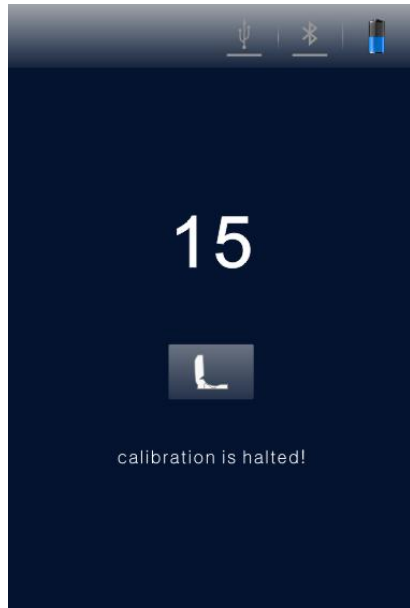

Fig 2.5-2
- c. If the  icon and < **Calibration is halted!** > are displayed on the screen of Biolum detector, as shown in figure 2.5-2. Please close the top cover again to continue the calibration process.